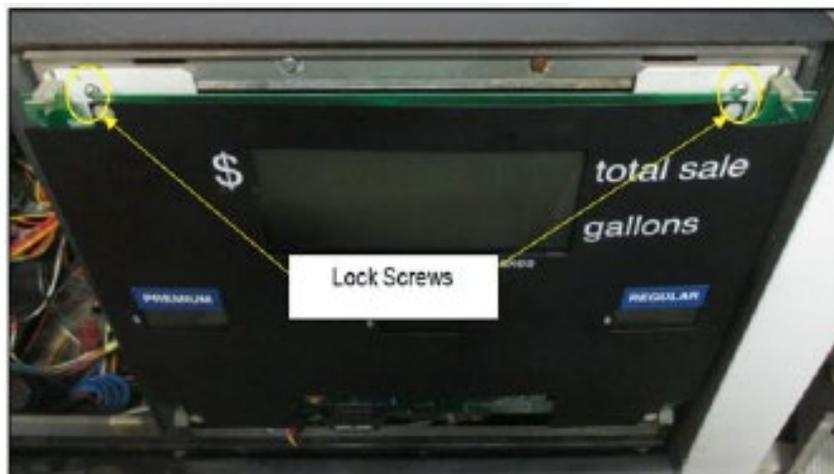

Figure 57
- c) Loosen the two lock screws (some setups of dispensers use half-turn screws, others use full thread screws) that secure the Money/Volume Assembly to the dispenser face. See Figure 57.